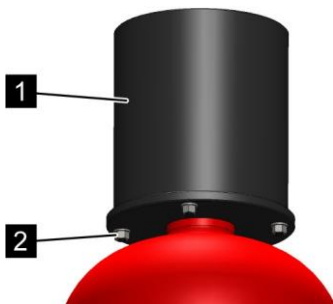

Fig. 192: Install the protective valve cap
6. ➤ Fit the protective valve cap (Fig. 192/1) onto the extinguishing agent container.
7. ➤ Screw the protective valve cap (Fig. 192/1) with the device onto the extinguishing agent container (Fig. 192/2).